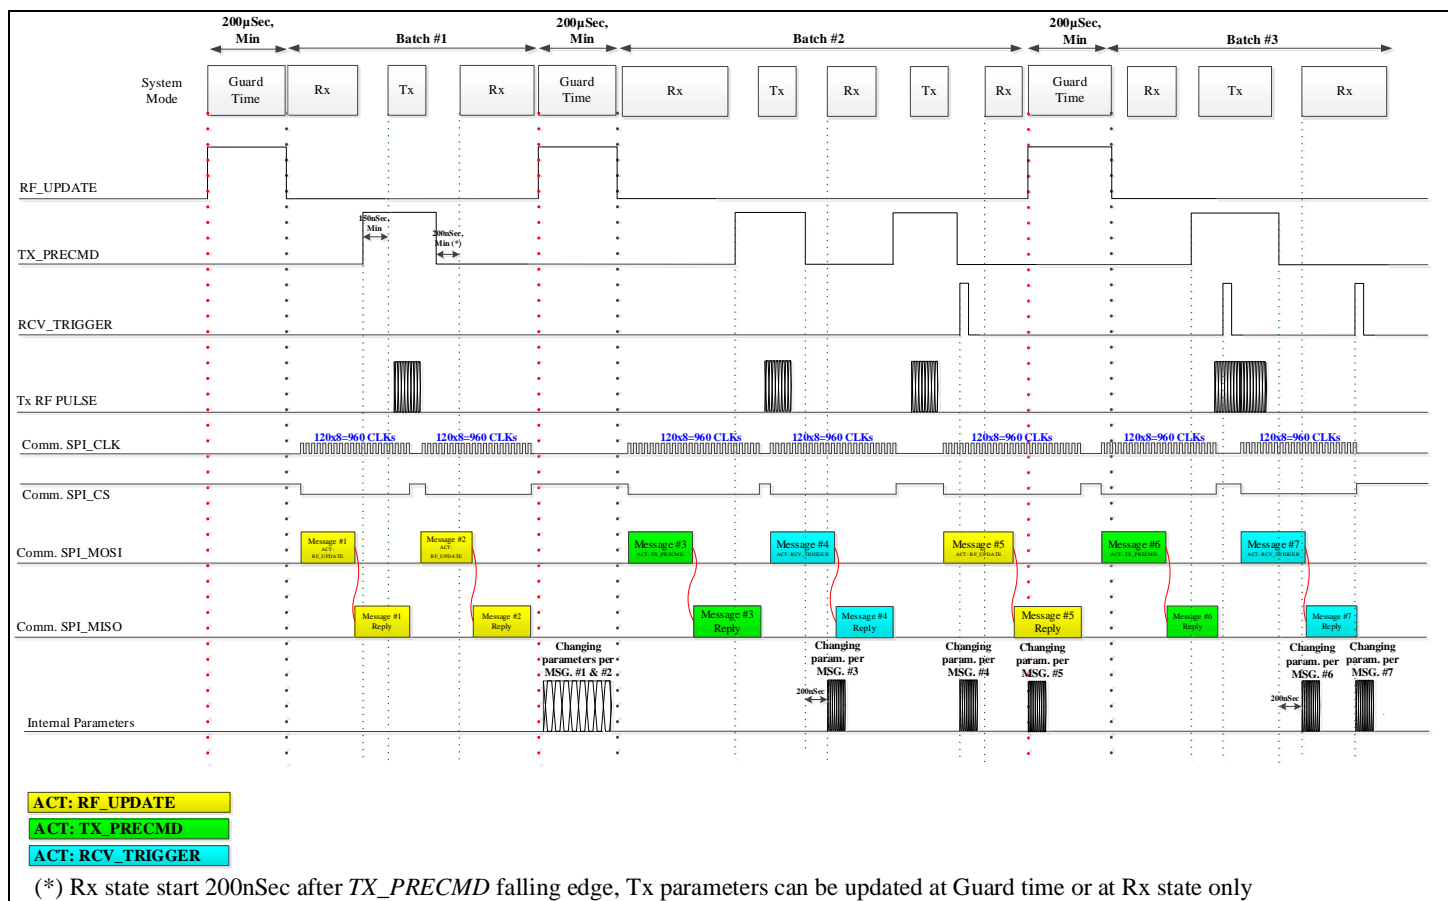

Figure 3: Timing Diagram
1. 'RF_UPDATE' Triggered commands: The response to this type of message shall be at the next start of 'RF_UPDATE' discrete. Upon assertion of 'RF_UPDATE' signal, the OGT shall start the process of changing RF control parameters as required by EA command. The reply to this message shall start right after the receiving command – see Figure 3.
2. 'TX_PRECEDING_CMD' Triggered commands: The response and reply to this type of message shall be at the next start of 'TX_PRECEDING_CMD' discrete (RF transmission pulse) – see Figure 3.
3. 'RCV_TRIGGER' Triggered commands: The response and reply to this type of message shall be at the next start of 'RCV_TRIGGER' discrete – see Figure 3.